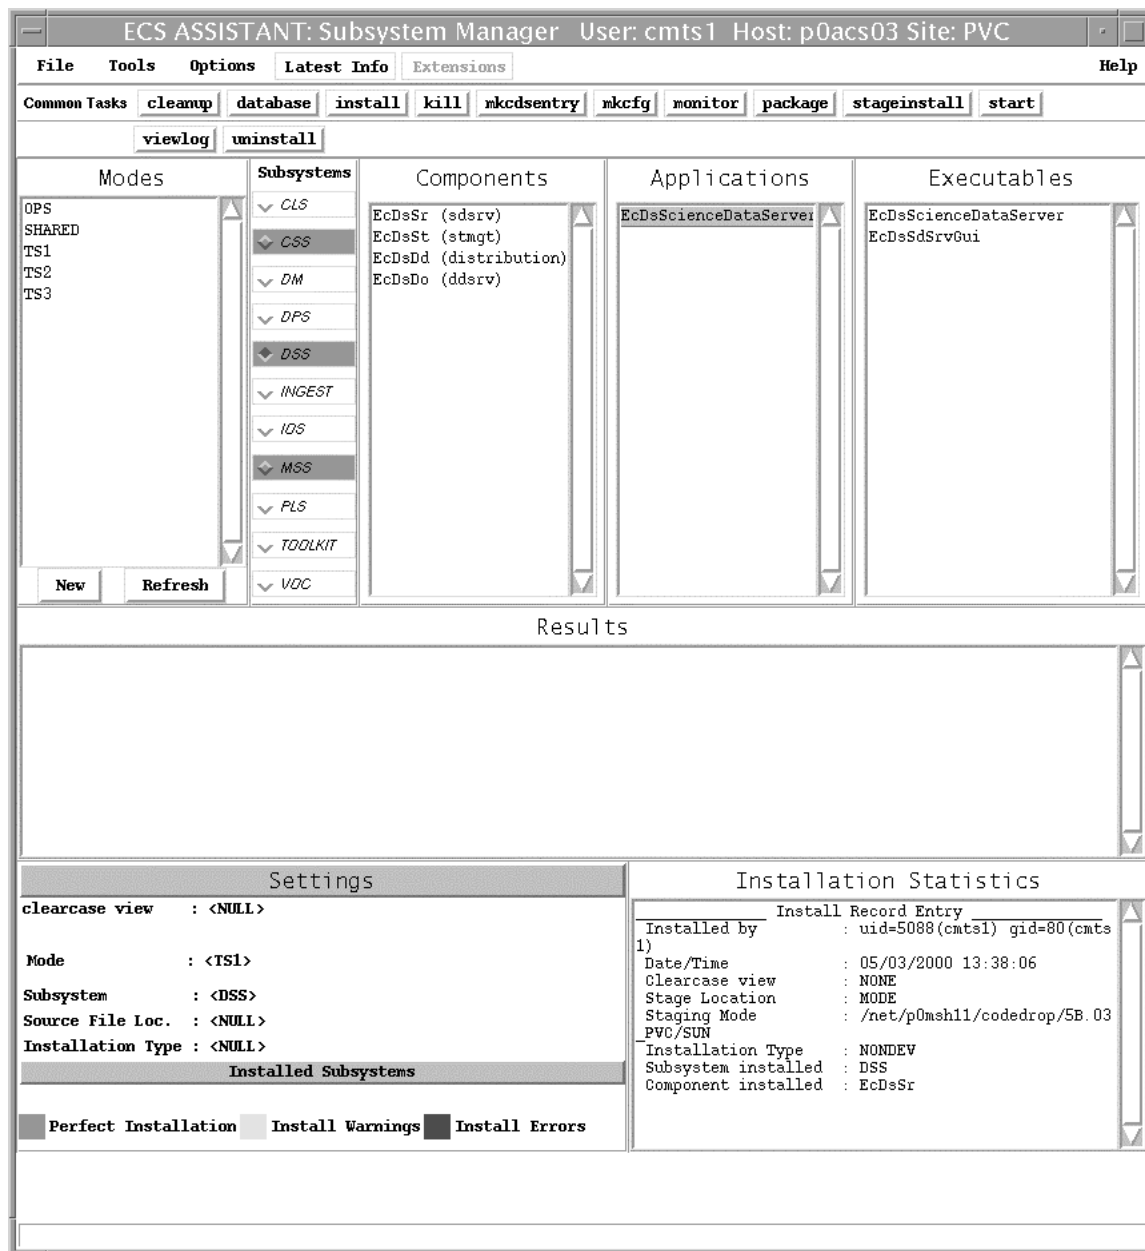

Figure 9. Subsystem Manager GUI
- This will invoke the Subsystem Manager GUI, as indicated in Figure 9.